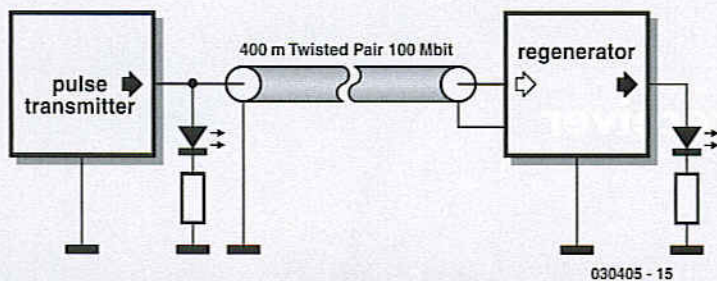

Figure 5. Test configuration with two LEDs to demonstrate the effect. A two channel scope can also be used in place of the LEDs.
**Figure 5** shows the test configuration for sending and measuring the high-speed pulses. With an oscilloscope connected to the transmitter output